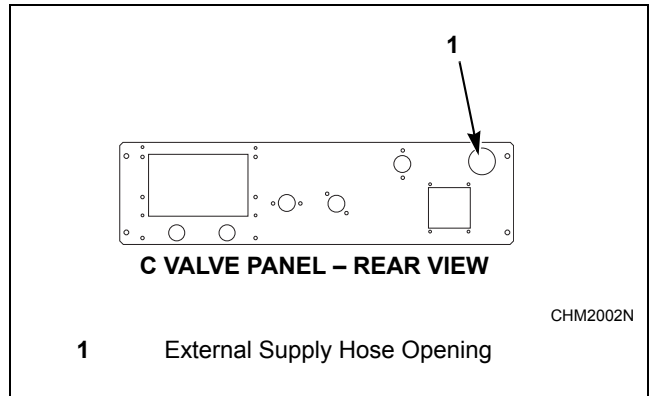

Figure 43
1. Facing the rear of the machine, locate the 1.5 inches (38 mm) opening found at the upper right-hand side of the valve panel. Refer to *Figure 43*.